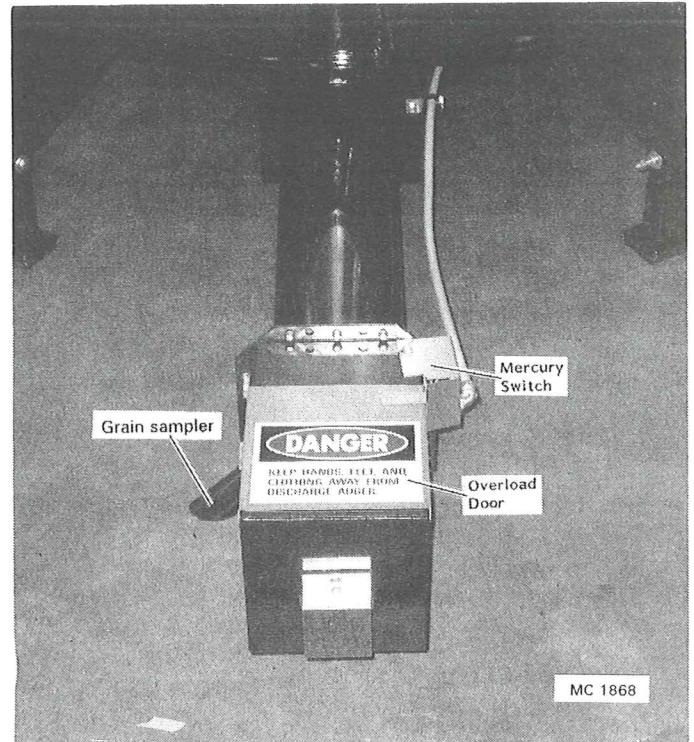

Figure 53 - Discharge Auger
1. If the customer supplied grain take away system fails, the dryer will continue to discharge grain until the rear discharge overload door, Figure 53, is raised by the grain.